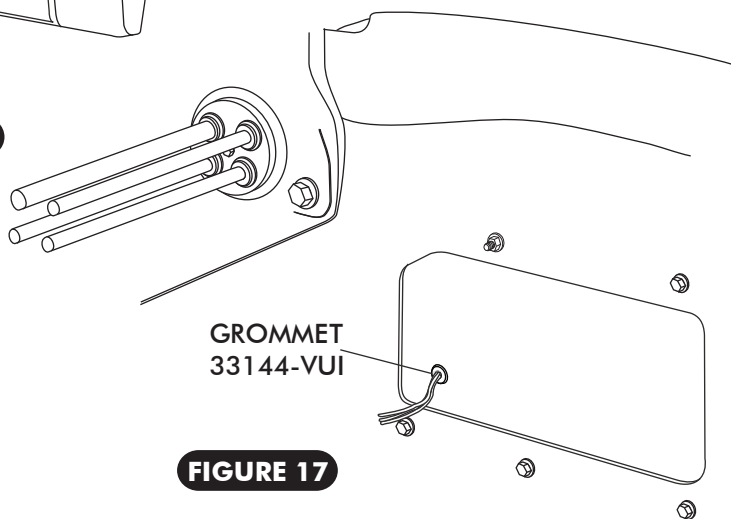

FIGURE 17
- ☐ ROUTE A/C WIRES THROUGH $\frac{3}{8}$ " GROMMET AS SHOWN IN FIGURE 17, BELOW.